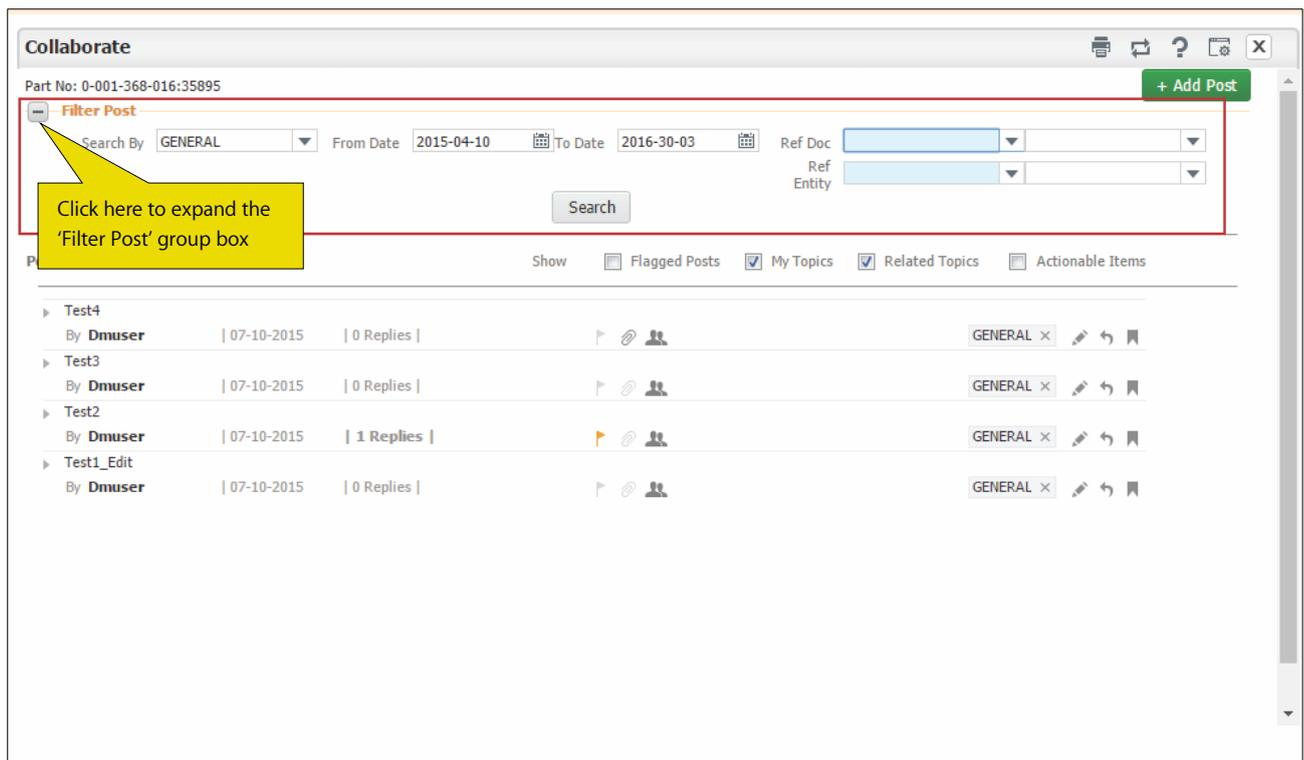

Figure 2.3 Searching for a post
1. Click **+** **Filter Post** in the Collaborate popup. *See Figure 2.3*